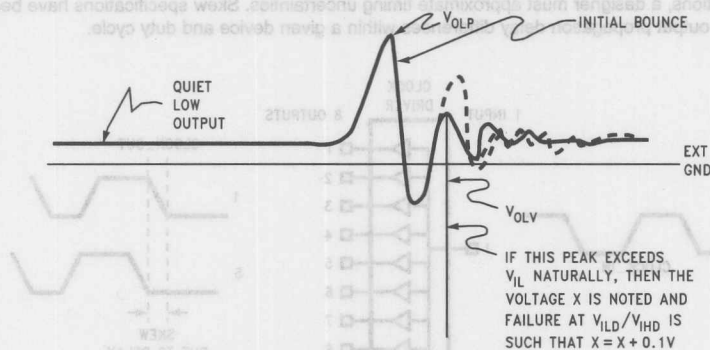

FIGURE 17
3. If the natural ringing, other than the initial bounce, of the output violates an input threshold level, the starting voltage level is noted and monitored until a 100 mV amplitude change towards threshold. If no amplitude change occurs, then the next peak or valley on the output is monitored for input threshold violation. *Figure 17.*